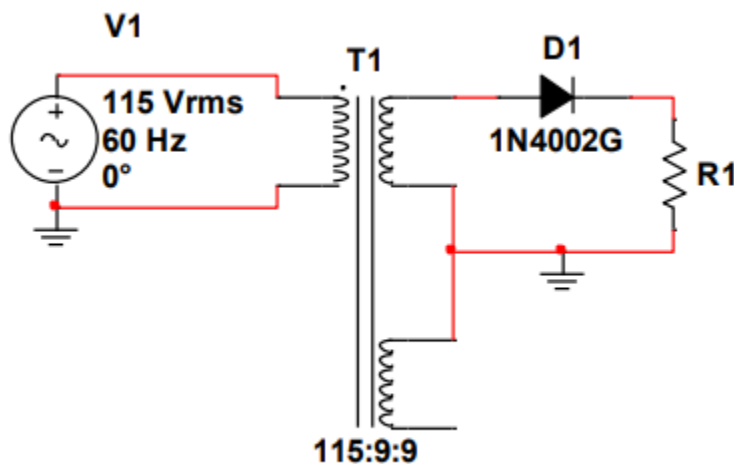

Figure P.1 – Half Wave Rectifier
4. Use the transformer you have built in step 2 to construct the three different rectifying circuits in **Figures P.1, P.2, and P.3**. For the circuits that use a “non-center tapped” transformer, simply use the top-half of the secondary coil of your center-tapped transformer. **Include the plots** of the voltage across R1 in your prelab. If you are unfamiliar with what each rectifier does, read sections 3.5 – 3.5.3 (in Sedra) to understand them further.